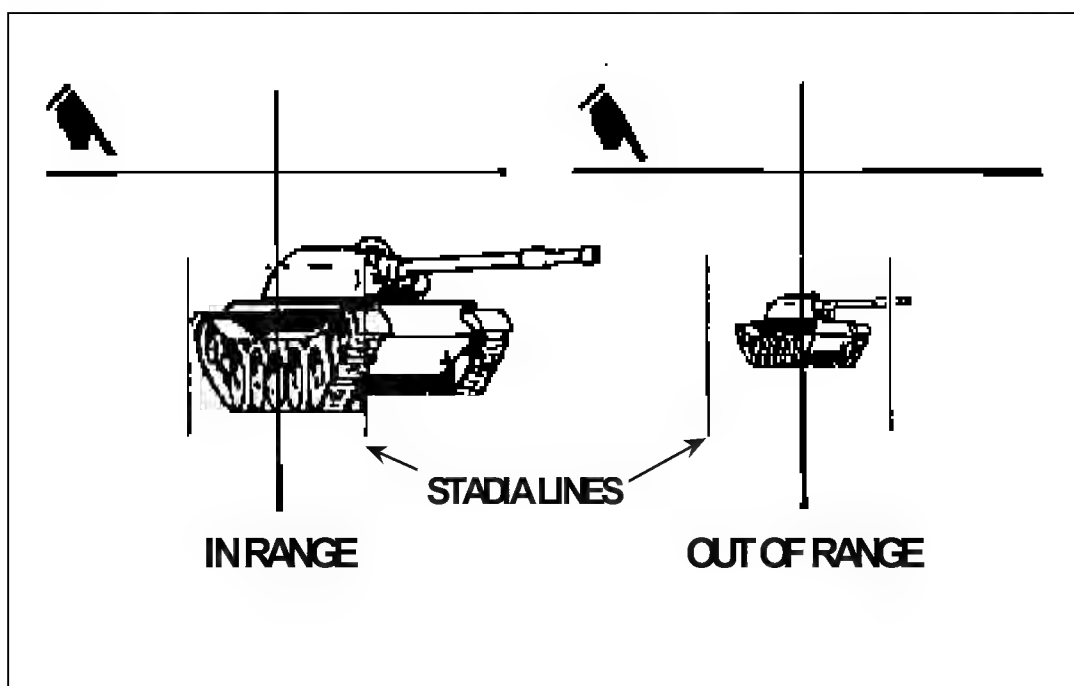
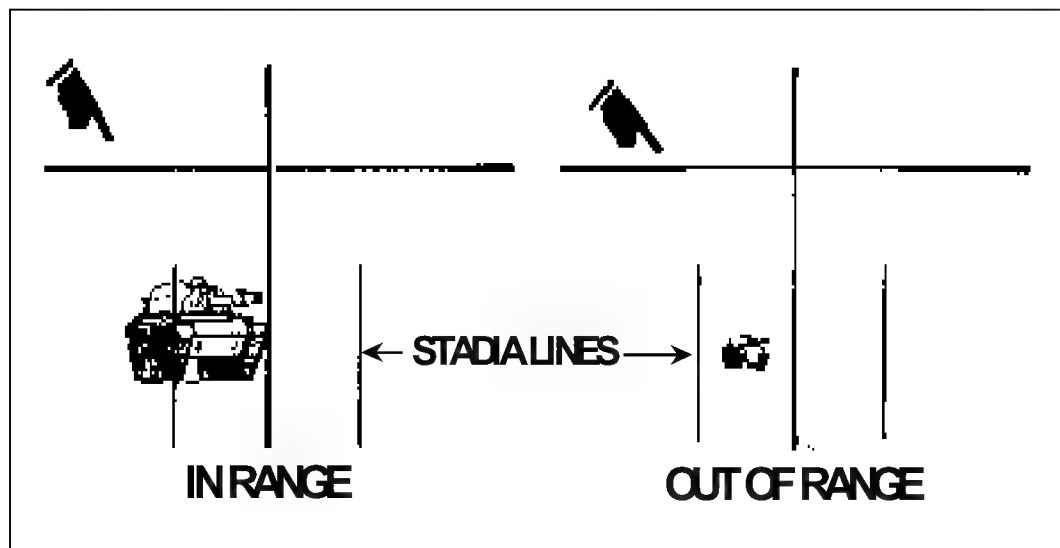

Figure 8-13. Range determination for oblique target, more flank visible.
Figure 8-14. Range determination for oblique target, more front or rear visible.
b. **Oblique Targets.** If you can see more of the flank, use the full-stadia method (Figure 8-13). If you see more of the front or rear, use the half-stadia method (Figure 8-14, page 8-15).